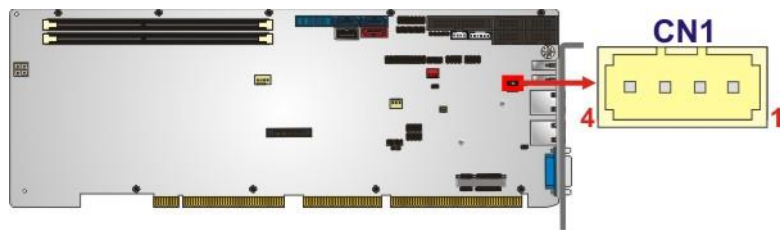

Figure 3-13: I2C Connector Location
- CN Location: See Figure 3-13